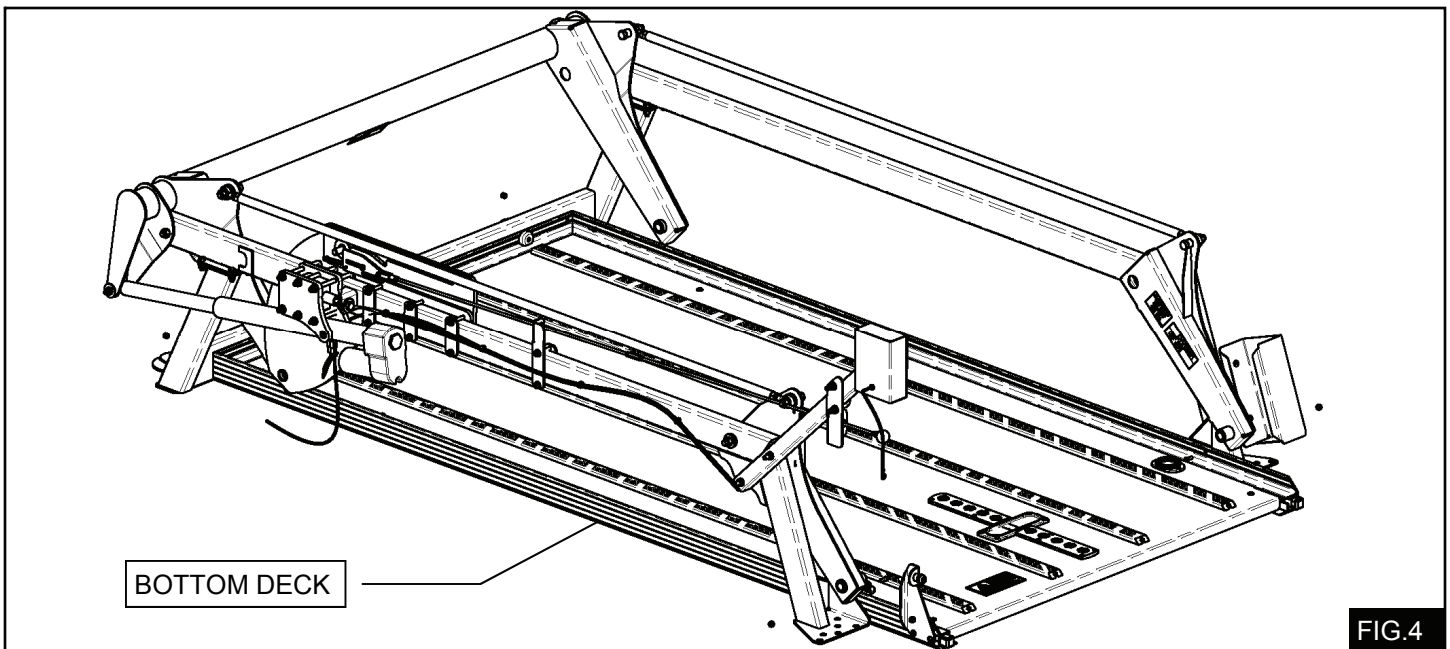

FIG.4
6.7 Place the bottom deck in the vehicle (**FIG.4**) and secure it with the front 1/4 X 3/4 socket button head screws and lock nuts, and finish with the same size fasteners in the rear. Install and tighten all fasteners between the bottom deck and the frames and cross member. Place 2x4s on top of the bottom deck for the top deck to rest on during installation.